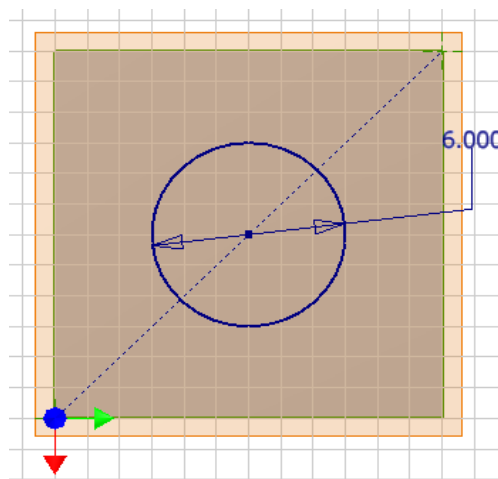

Figure Step 8
**Step 8** Draw a 6 Diameter circle snapping the center to midpoint of the line. See Figure Step 8.